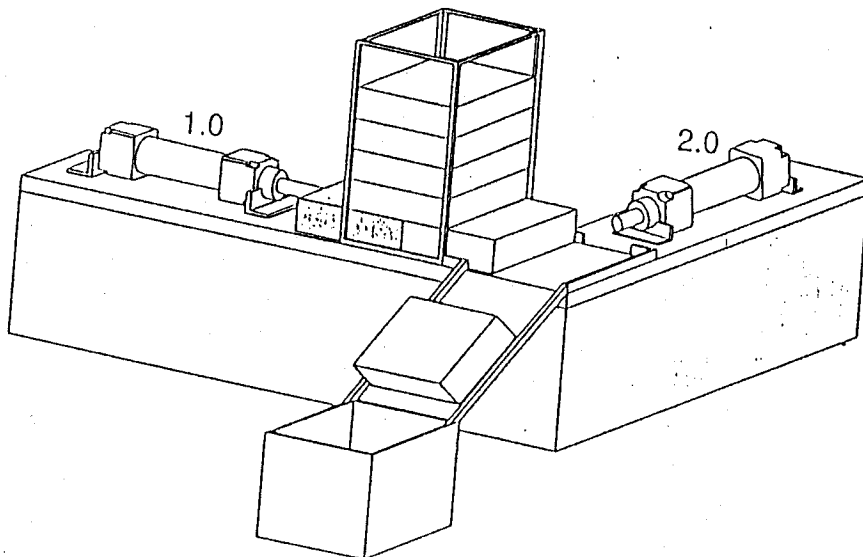

Figure 3
- 1(a) Write what you know about aftercooling, absorption, refrigeration and adsorption drying of compressed air. (10)
- (b) Explain the operation of the following: flow control, quick exhaust valve, pilot assisted solenoid valves, relay memory dominant set, relay memory dominant reset. (10)
2. A form tool is to press a metal plate. Extension of the piston rod must be disabled until the supply pressure to the control valve reaches a preset pressure as measured by an adjustable pressure switch. Providing the preset pressure is reached, the operation of two push button switches advances the form tool. The advance and return speeds are to be adjustable. The piston rod must return when either push button is released. Design an electro-pneumatic system, showing both pneumatic and electrical circuits, which can be used to control this pressing operation. (20)
3. Two cylinders are used to push product from a vertical stack into a container as shown in Figure 3. Design a pneumatic and electrical circuit which will continuously remove product from the stack when a start switch is pressed. Operation will cease if the switch is released but only when the product removal cycle in operation at that time has finished, i.e. product cannot be left half removed. (20)